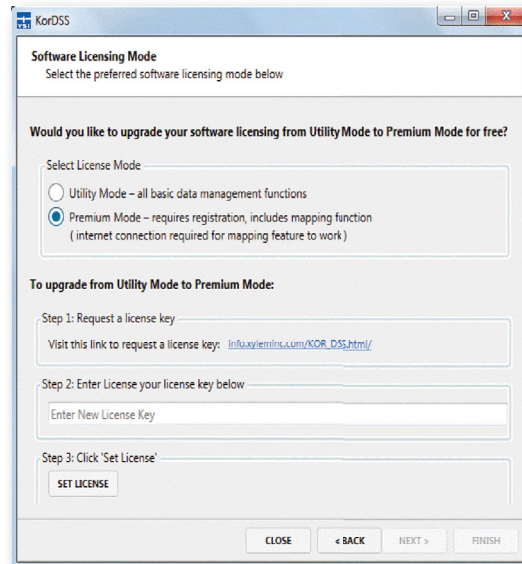

Figure 85 Software licensing mode screen
2. On the Software Licensing Mode screen, select **Premium Mode** if you would like to view sampling locations on a map (internet connection required) (Figure 85). To upgrade to Premium Mode for free, follow the link, register your ProDSS, then use the code sent to you via email to upgrade to the Premium Mode. You can upgrade to Premium Mode at any time by going to the File tab in KorDSS.